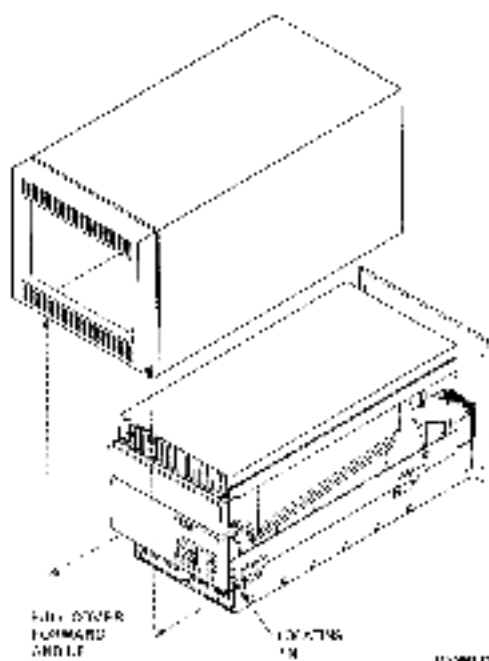

Figure 4.3 Cover/Bezel Assembly Locating Pins
3. Slide cover toward rear while engaging two front locating pins (Figure 4-3). Make sure no cables get caught between cover and rear bezel.